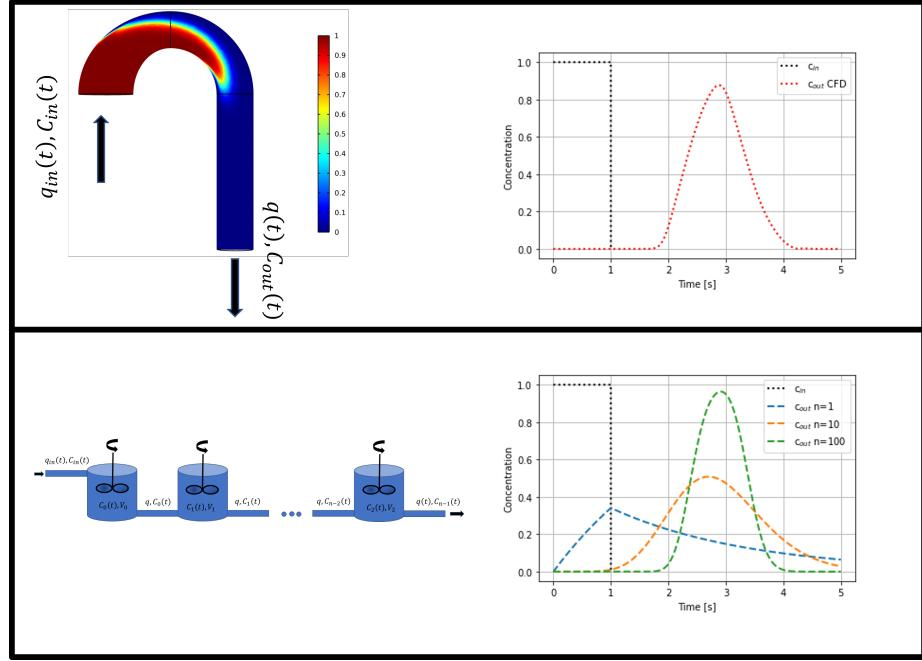

Figure 1: Top: A CFD simulation of an aorta arch. Bottom: A model with  $n$ -mixing tanks in a series.
**Graphical Abstract.** In this project we are investigating if we can replace a complicated 3D computational fluid dynamics simulation with a set of ordinary differential equations, as in figure 1.
In this project, a CFD solver has been used to produce data for us: The CFD solver is our “experimental lab”. To match results from the CFD simulations, we are going to implement a much simpler approach, namely a Continuous-Stirred-Tank-Reactor (CSTR) model with  $n$  tanks in series [ch.18][3]. The key idea we are going explore is illustrated in figure 1.
The top part of figure 1 illustrates what happens when a square pulse of contrast agent is injected into an aorta arch. The left plot shows a snapshot of the spatial distribution of contrast agent after 1 second, while the right plot shows the sampled effluent concentration (the concentration coming out) as a function of time. We want to investigate whether we can use a simple model with  $n$ -tanks in a series to predict the same *effluent* concentrations. Clearly, we will not be able to match the concentration *inside* the aorta arch. However, if we can reproduce the effluent concentration with the  $n$ -tank model (the value of  $n$  has to be determined from the data), we can use the simple model to determine important parameters of the system, such as the volume of the aorta arch. Subsequently, the model could become an important diagnostic tool.